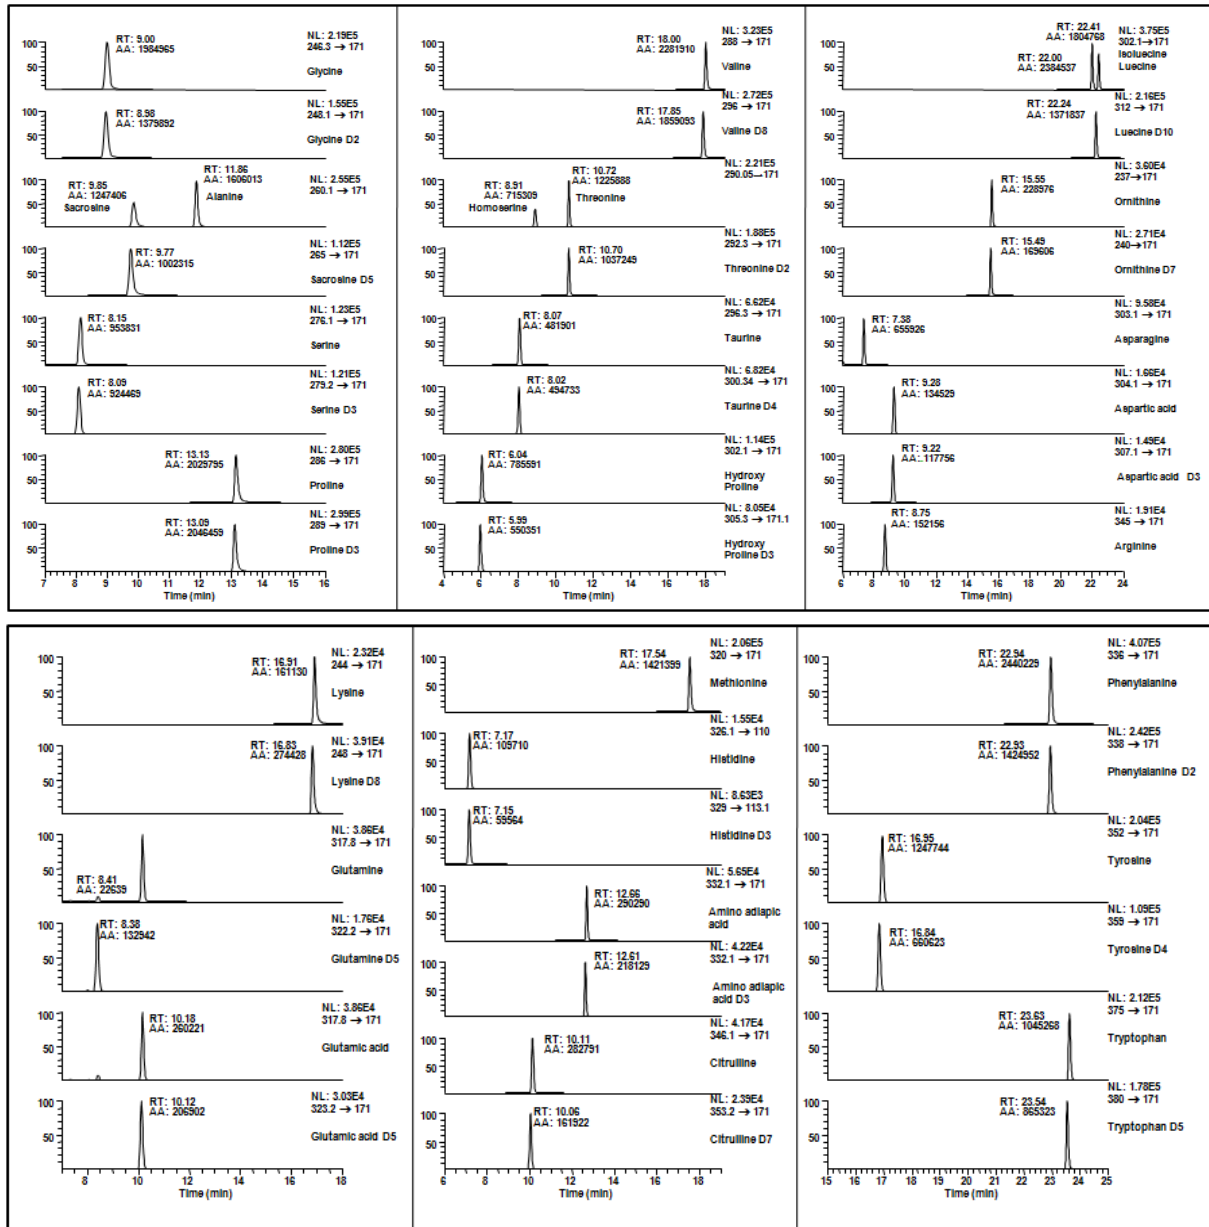

Figure 2: LC-MS/SRM chromatogram of 26 amino acids (10ng on column)
- The expected result is shown in the figure 2.